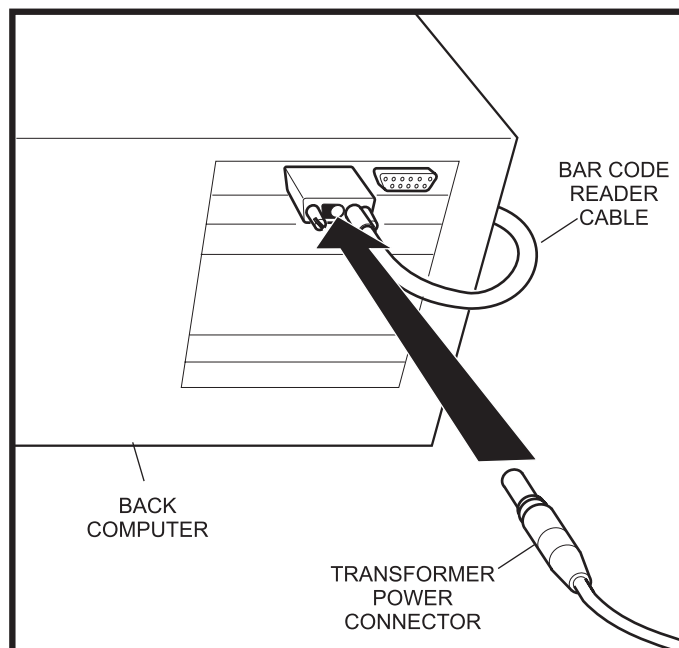

Figure 4
4. Insert connector from power transformer into rear of interface cable connector. Refer to Figure 4.